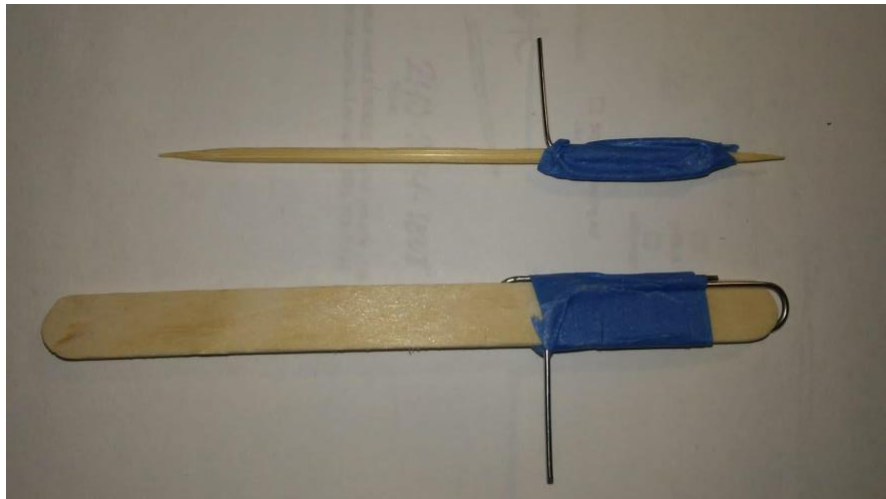

Figure 1b. Securing the wire to the core.
2. Then apply paper or masking tape to secure the clip to the wood piece, wrapping it tightly and burnishing it down around the wire to bind onto the wood, Figure 1b.